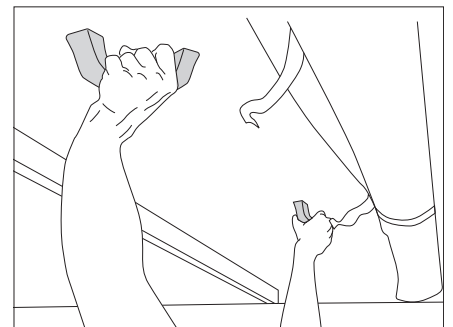

Fig. 51 Pushing up the pop-up roof
- Hold both the grips with both hands and push the pop-up roof upwards (Fig. 51).